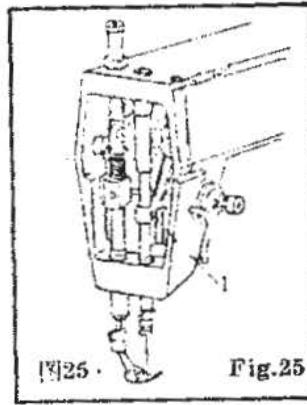

图25 Fig.25
- (1) 松开旋转钩三个固定螺钉；
- (2) 转平衡轮，使机针下降到最低位置后上升 2.2毫米；
- (3) 调钩线尖，使钩线尖到达机针的中线处；
- (4) 松针杆连接轴紧固螺钉“T”（图 25）；
- (5) 调针杆的高度，使旋转钩线尖高于机针孔上边 2毫米；最后将全部紧固螺钉旋紧。
- (1) Loosen the three set screw of rotary hook,
- (2) Turn balance wheel to lower than the needle in the lowest position and then raise it 2.2mm.
- (3) Turn the rotary hook to make the looping point on the position of the midline of needle.
- (4) Loosen the set screw of needle bar link shaft (Fig. 25)
- (5) Regulate the height of needle bar to make the looping point 2mm higher than the hole of needle.